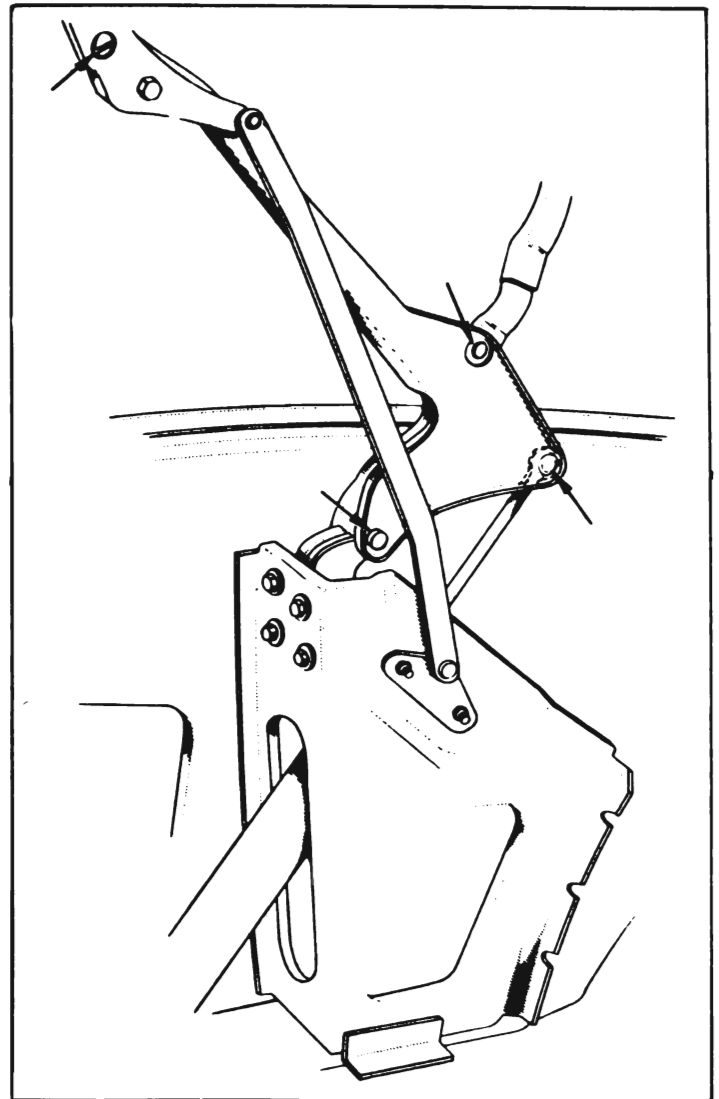

Figure 1-17—Lubrication of Folding Top Linkage
17. *Folding Top Linkage (Convertibles).* Apply a sparing amount of light engine oil to bearing points indicated by arrows in figure 1-17. Wipe off excess lubricant to prevent soiling trim.